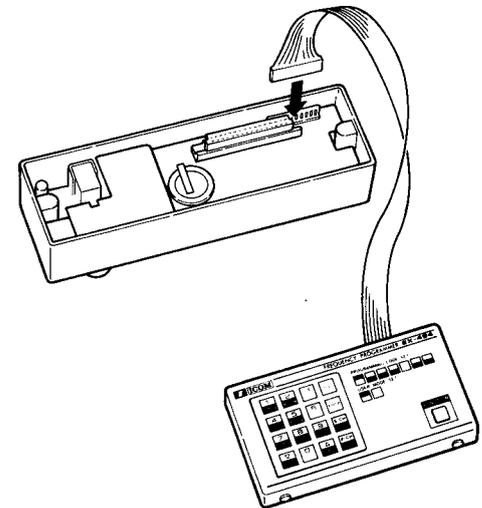

Fig. 2
- (3) Plug the connector from an EX-494 EXTERNAL KEYBOARD into J4. (Fig 2.)